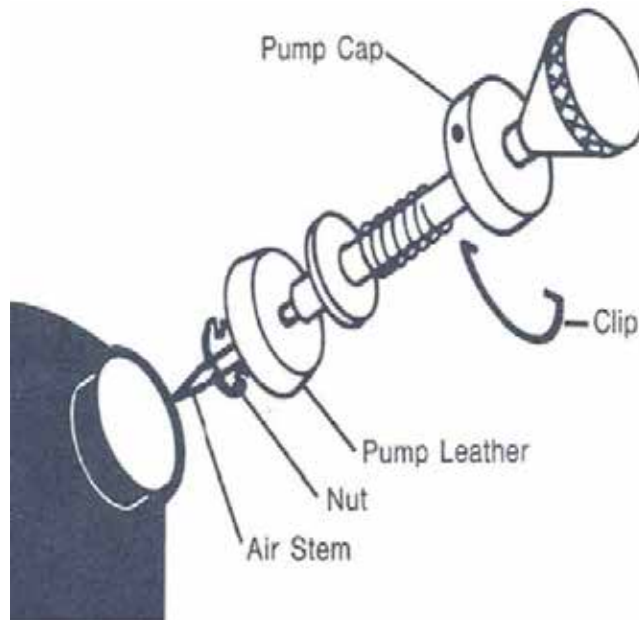

Figure 12 Pump Assembly
1. Remove clip from pump cap using needle-nose pliers (as per Figure 12).
3. Pull out pump and air stem (as per Figure 12).